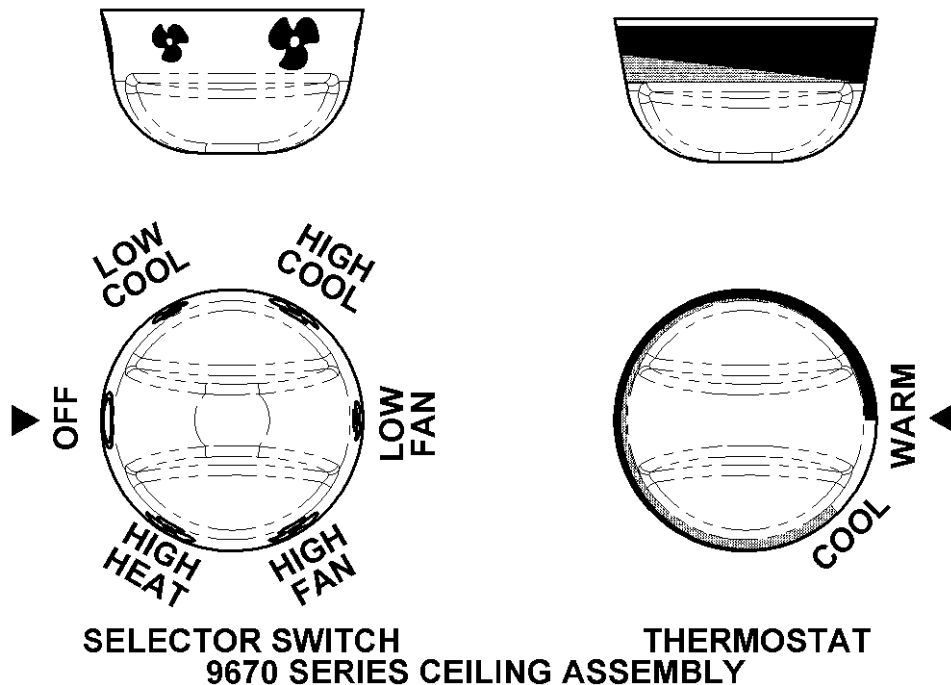
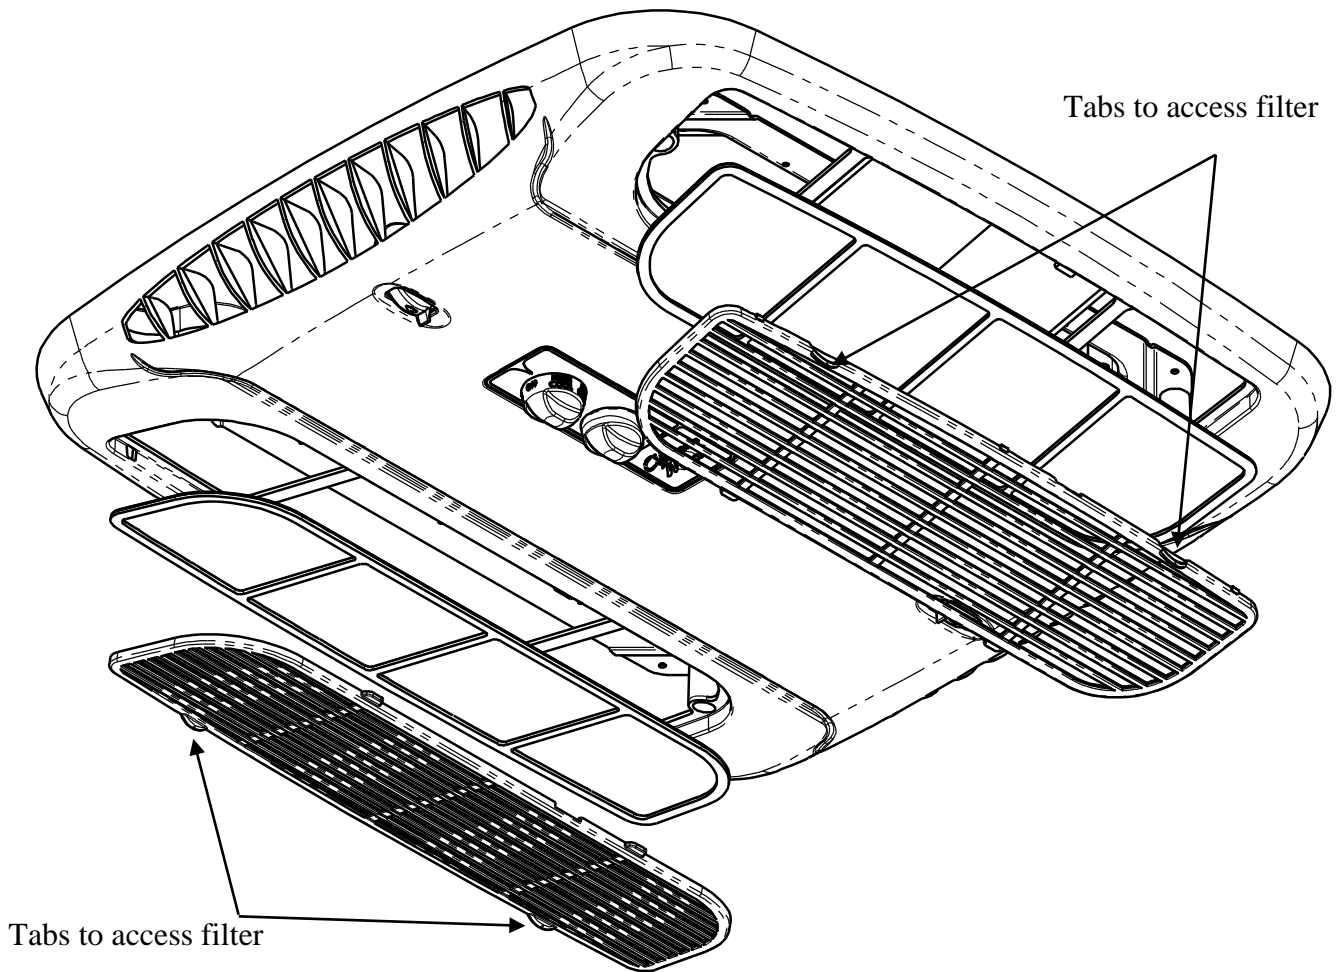

FIGURE 1
FIGURE 2
- A. The Selector Switch – The selector switch determines mode of operation. By rotating the selector switch, the operator can obtain any system function desired. Figure 1 shows selector switch and lists all available functions. 9600 ceiling assemblies will have the knobs at the bottom of the ceiling assembly (See Figure 2).
- B. The Thermostat (temperature control) – In the cooling mode, the thermostat regulates the “ON” and “OFF” temperature setting at which the compressor will operate. The thermostat also controls the “ON” and “OFF” temperature settings of the heater assembly (See Figure 1).
I. For Cooling (Refer to Figure 1, page 3).
IV. Heat Operation (Refer to Figure 1, page 3)
V. For Air Circulation Only (Refer to Figure 1, page 3).
1. Pull down on the grille tabs until they snap out of place to remove the grilles from the ceiling assembly (See Figure 2).
3. Take filters out and either clean or exchange them with other filters (See Figure 2).